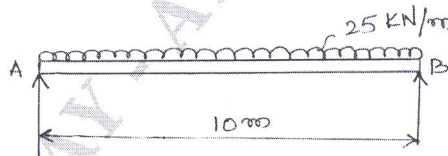

Fig.Q9(c)
- c. Determine the strain energy of the prismatic beam AB as shown in Fig.Q9(c). Assume $I = 195.3 \times 10^3 \text{ mm}^4$; $E = 2 \times 10^5 \text{ MPa}$. (06 Marks)